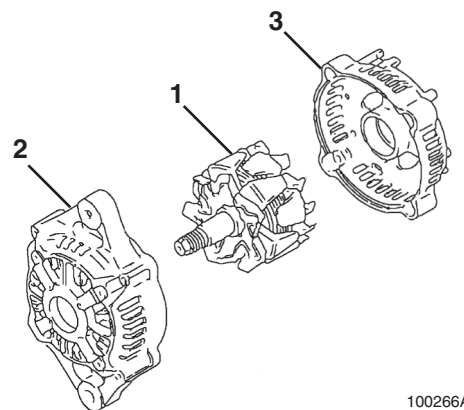

Figure 12-9
- Using a press, remove the rotor assembly (**Figure 12-9, (1)**) from the front frame housing (**Figure 12-9, (2)**) and rear frame housing (**Figure 12-9, (1)**).